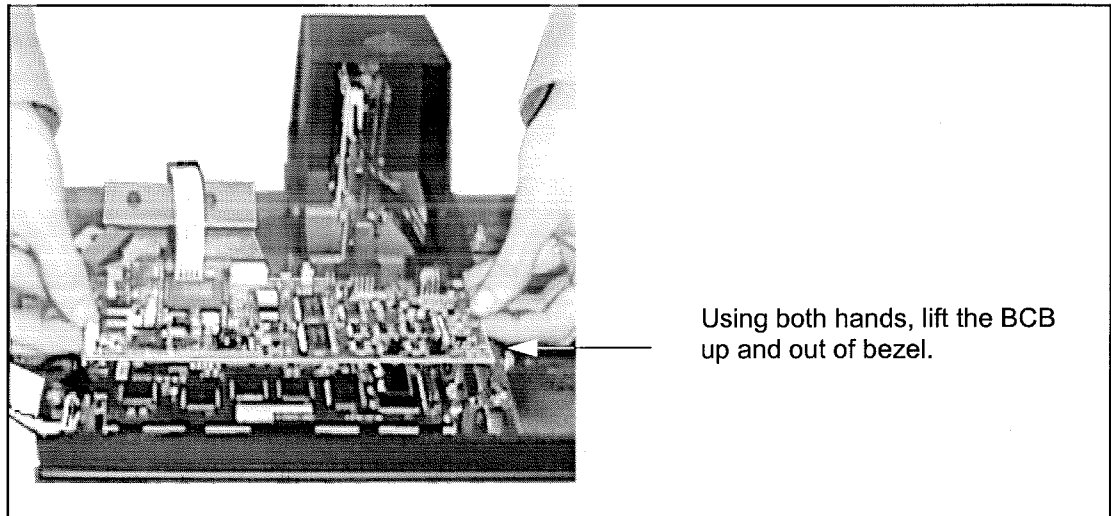

Figure B-3 Lifting BCB Out of Bezel
6. With both hands, gently lift the BCB straight up so it disconnects smoothly from the connector on the graphic display board. See Figure B-3.